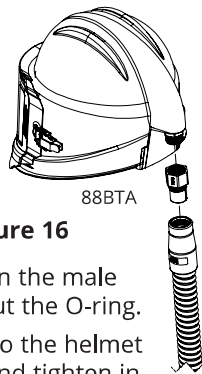

Figure 16
- 3) Align the female end of the adapter with breathing tube attached over the threaded breathing tube connection on the back of the GVX helmet and hand tighten. (Fig 16)